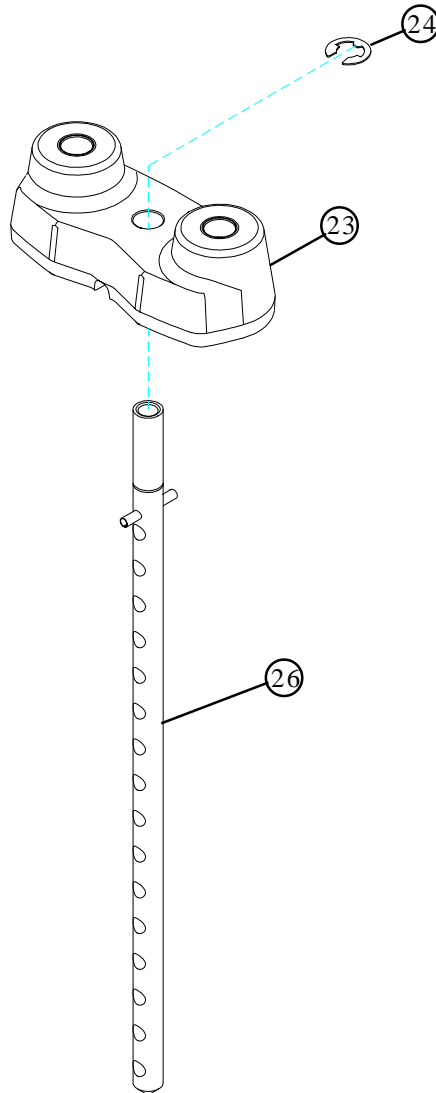

**FIGURE 2**
- Insert two WEIGHT PLATE BUSHINGS (22) into each of the fifteen WEIGHT PLATES (21) as shown in FIGURE 2.